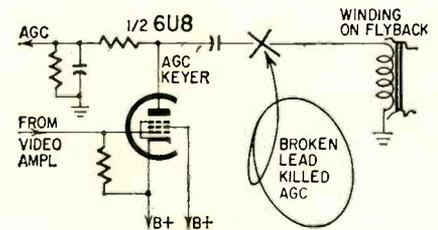

Fig. 11—Negative picture was caused by a break in a flyback lead.
**Conclusion:** No keyer pulse to plate of keyer tube. Investigation uncovered a broken lead wire on the flyback transformer (Fig. 11).